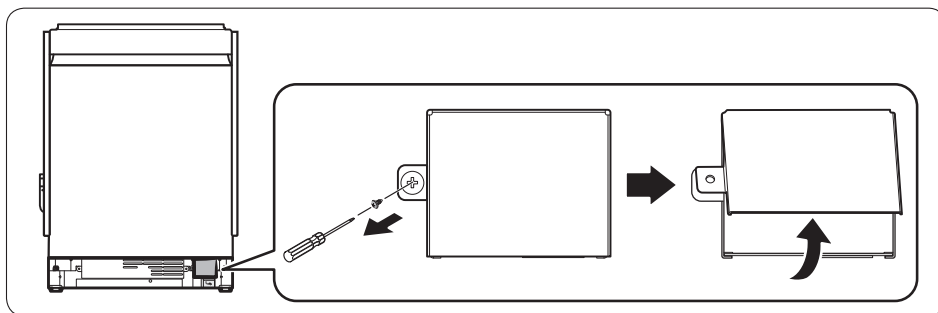

Figure 12
4. Pass the power cable through the strain relief, and then into the junction box (Figure 12).